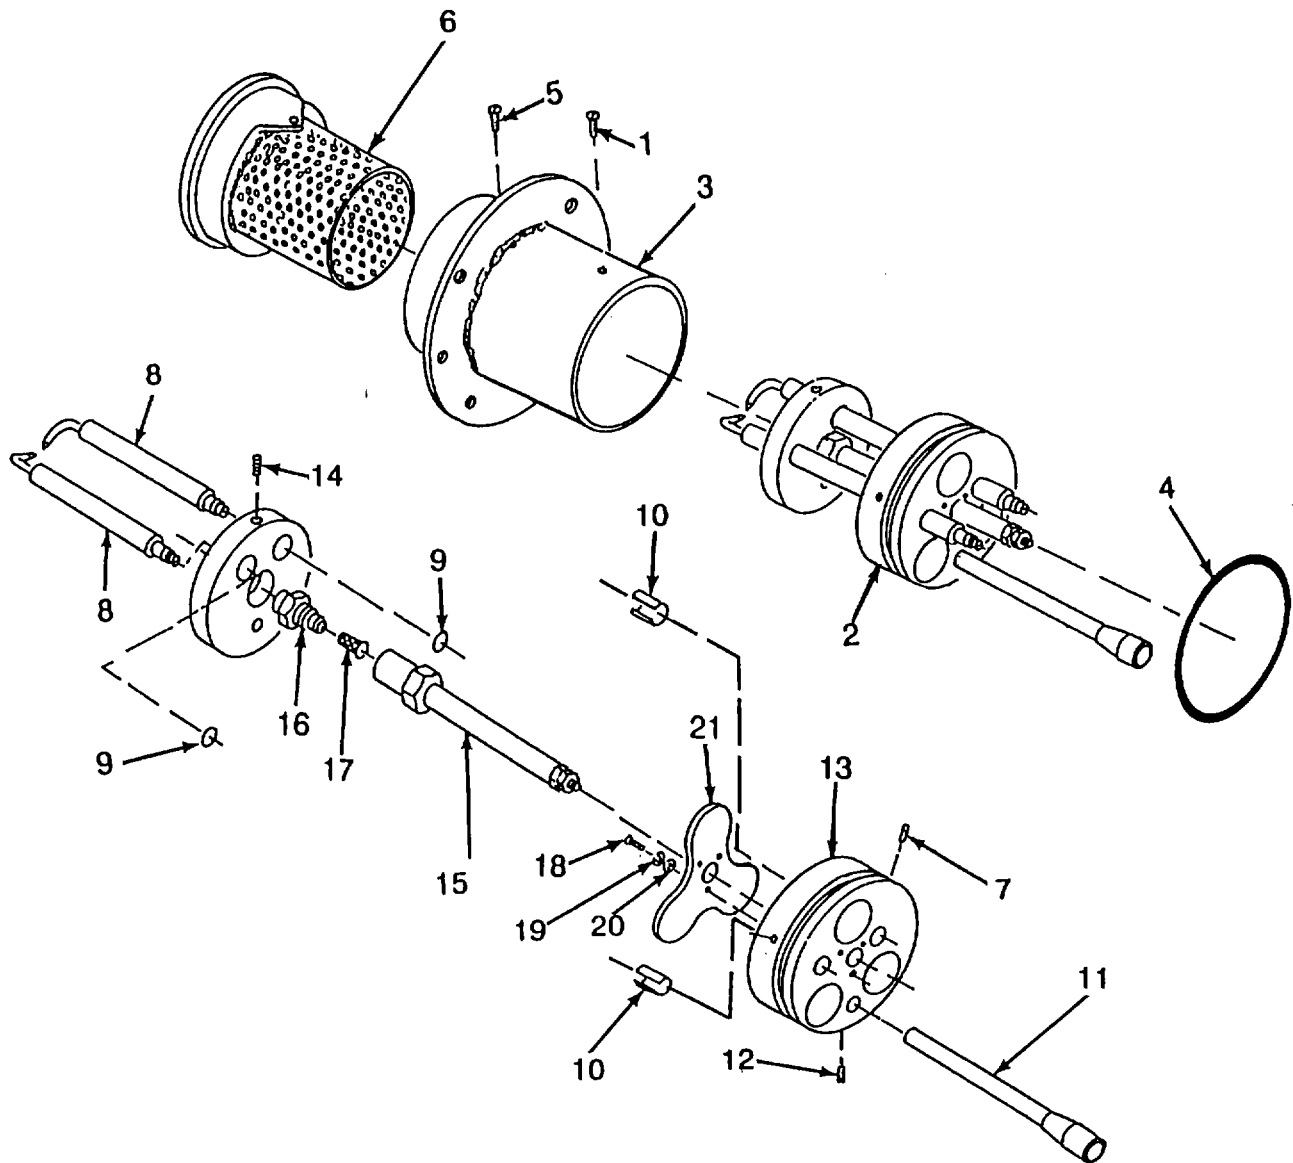

Figure 5-8. Burner Assembly
- a.    Disassembly (Refer to Figure 5-8)
- (1)    Remove three setscrews (1).
- (2)    Remove block (2) from flange (3). Remove preformed packing (4). Discard packing.
- (3)    Remove screw (5) and fire ring (6).
- (4)    Remove two set screws (7), two electrodes (8), two preformed packings (9) and two sleeves (10). Discard packing.
- (5)    Remove tube assembly (11).
- (6)    Remove set screw (12) from baffle (13).
- (7)    Remove set screw (14) and fuel tube (15).
a. Disassembly - continued (Refer to Figure 5-8)
(8) Remove nozzle (16) and screen (17).
(9) Remove three screws (18), three lockwashers (19), three flat washers (20) and petal valve (21). Discard lockwashers.